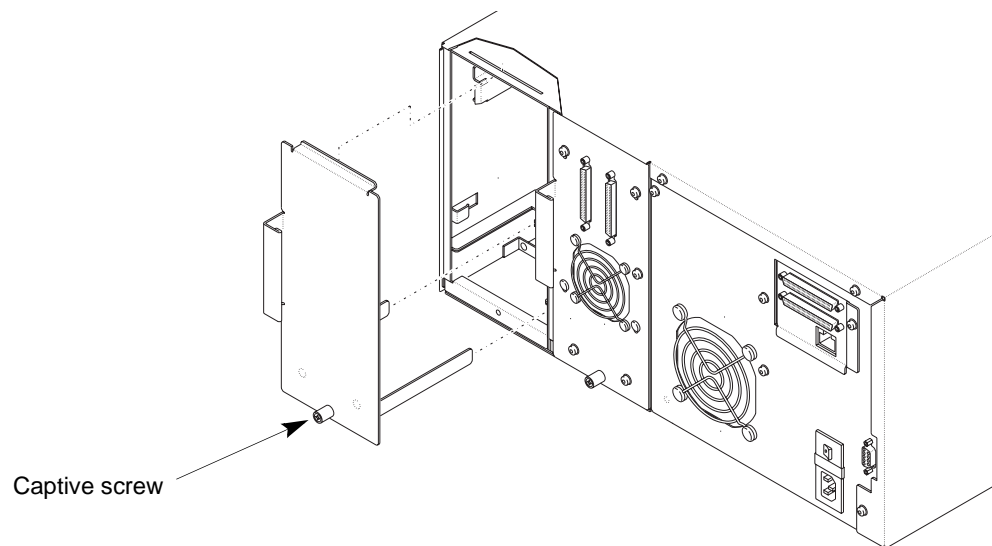

Figure 7-1 Removing the drive access cover
1. From the back panel, use a #2 Phillips screwdriver to release the captive screw that secures the service access cover to the library (see Figure 7-1).
2. When the screw is loosened, remove the service access cover, as shown in Figure 7-1.